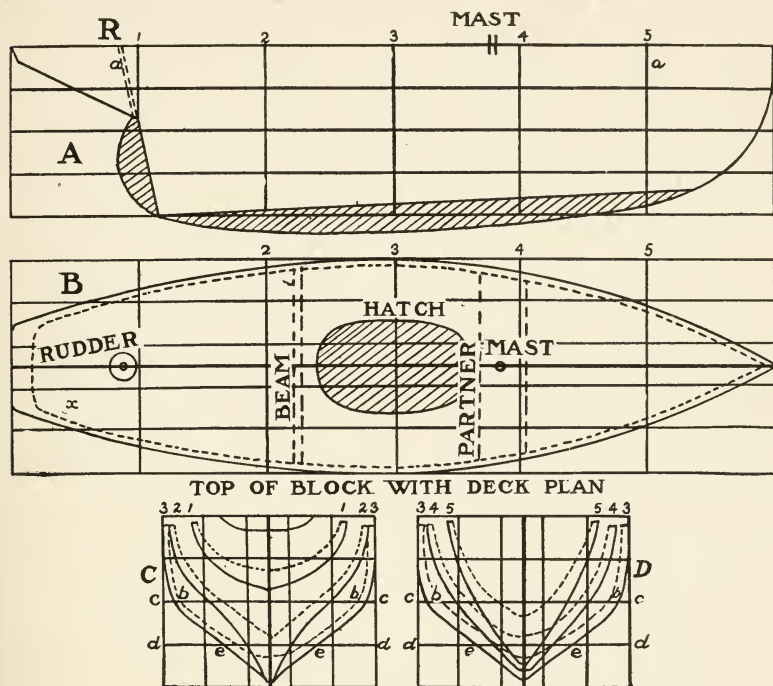

Fig. 2
In Fig. 2, A represents a side of the block, B the top or deck, C the stern, and D the bow. The long curved line near the upper edge of A is known as the "sheer line." It shows the curve of the deck from bow to stern. To draw it, take a straight, slender strip of wood, drive two wire nails into the block; say at *a* and *a*, and resting the strip upon them, bend it downward till the curve is sufficient, when a third nail may be set above the middle of the strip to hold it, and the line drawn with a pencil. By setting the nails exactly opposite on the other side of the block the sheer line may be repeated there. The line of the keel is straight for almost the whole length of the block, and the lines for bow and stern can be drawn by measurement to correspond on the opposite sides; or, if desired, paper patterns may be cut, and used for guides on either side. The shaded portions of Fig. 2 show the lead keel and the rudder, which are made and attached afterward. If there is any choice between the two broad sides of the block, select that which is freest from defects for the bottom of the boat, as the upper, or deck, side will be for the most part cut away. Draw the outlines of the deck (B, Fig. 2) by bending a slender piece of wood as in the case of the sheer line. To secure absolute accuracy it is best to double a piece of paper and cut out a half-breadth plan, with the doubled edge on the central line.
of the block (C, Fig. 2) and the fore sections on the other end (D, Fig. 2), as indicated; the midship section (3) need not be drawn on both, except for convenience. The dotted line shows the inner surface of the hold.
In trimming the outside, the profile of bow and stern and the line of the keel should first be cut away across the whole width of the block. This may be freely done with saw, plane, and shave. With a fine saw cut carefully down at the numbered points in A (Fig. 2) as far as the sheer line. Do this on both sides. Next, the large masses of wood at bow and stern may be sawed off on lines not quite touching the side curves.
The thickness of the sides of the model has been given as half an inch, but skilled workmen may reduce this to a quarter of an inch, or even less. Near the ends and along the bottom greater thickness is required for strength. Model yachts may be built in several different ways, but the hollowed block is the simplest. When the hull is shaped, bore a quarter-inch hole for the rudder head, running up through the solid wood of the stern, on the line of the stern-post (R, Fig. 2). This done, the overhang may be lightened by cutting away the extra wood, leaving, say, half an inch of thickness to serve as a rudder-case.
Cross-pieces half an inch thick are now set in place to strengthen the deck, at the mast-step, and elsewhere if needed (see dotted lines on deck plan, Fig. 2), a hole is bored to receive the foot of the mast, and then the whole interior is painted with white lead and allowed to dry before the deck is finally in place. As the wet paint is out of the way, however, work may go on.
model upside down, mark the shape with a lead-pencil, trim it out nearly to the line, fasten it in position with a few fine wire nails, and finish trimming the edges. Bore holes for the mast, rudder, and hatchway (if one is required), and make also a small hole, say at X (see deck plan, Fig. 2), where any leakage may be poured out in case of need. A hatchway large enough for a hand and arm is very convenient should anything go wrong below-decks. Paint the under side of the deck, and leave it to dry with the rest of the inside paint.